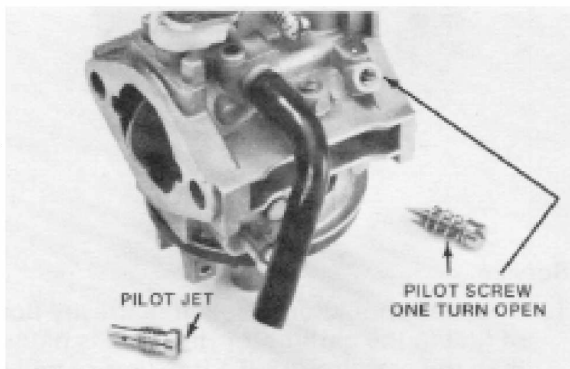

Figure 3-6
The pilot screw controls air in the pilot circuit. It should be open one full turn. See Fig. 3-6.
4. Install the pilot jet and pilot screw. See Fig. 3-6. The pilot screw should be one turn open.